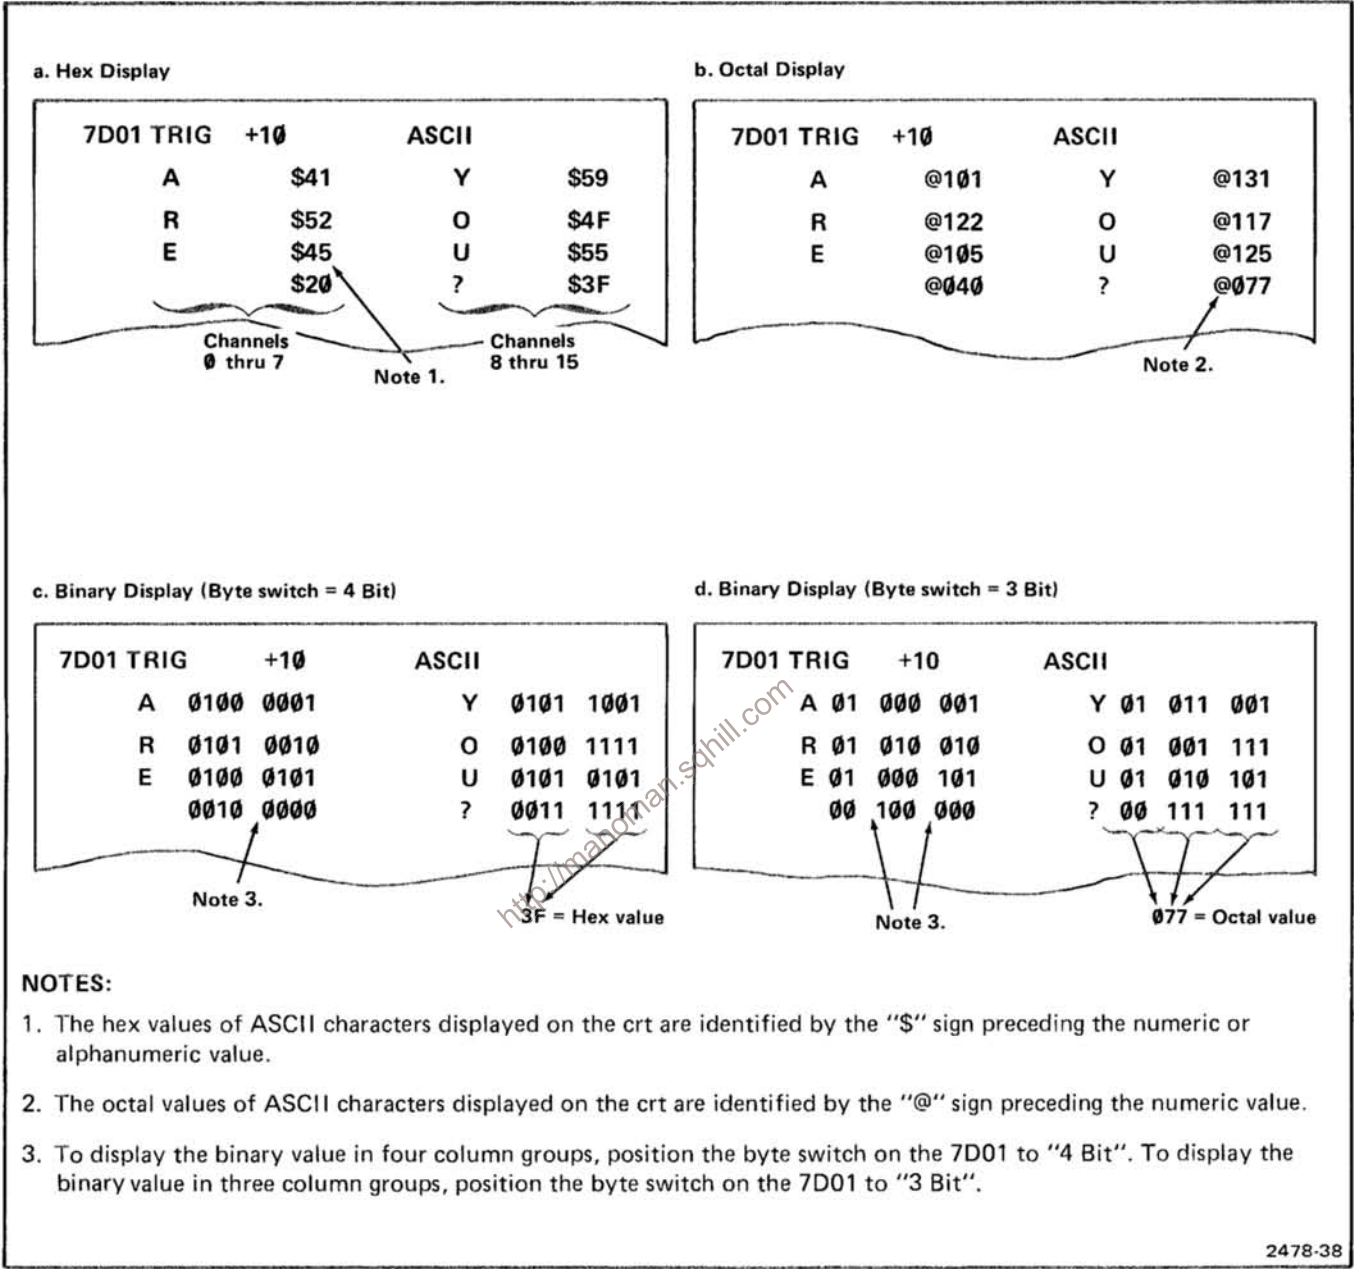

Figure 4-2. ASCII state table displays of hex, octal, and binary values.
(events) may be stored in memory. The data is displayed on both the left and right sides of the crt. The left side represents channels 0 thru 7, and the right side represents channels 8 thru 15. See Figure 4-2.
- d. Figure 4-2 illustrates the various state table displays (hex, octal, and binary) available with ASCII operation. Figure 4-4 and 4-5 provide tables for converting ASCII mnemonic code to equivalent hex, octal, and binary values.